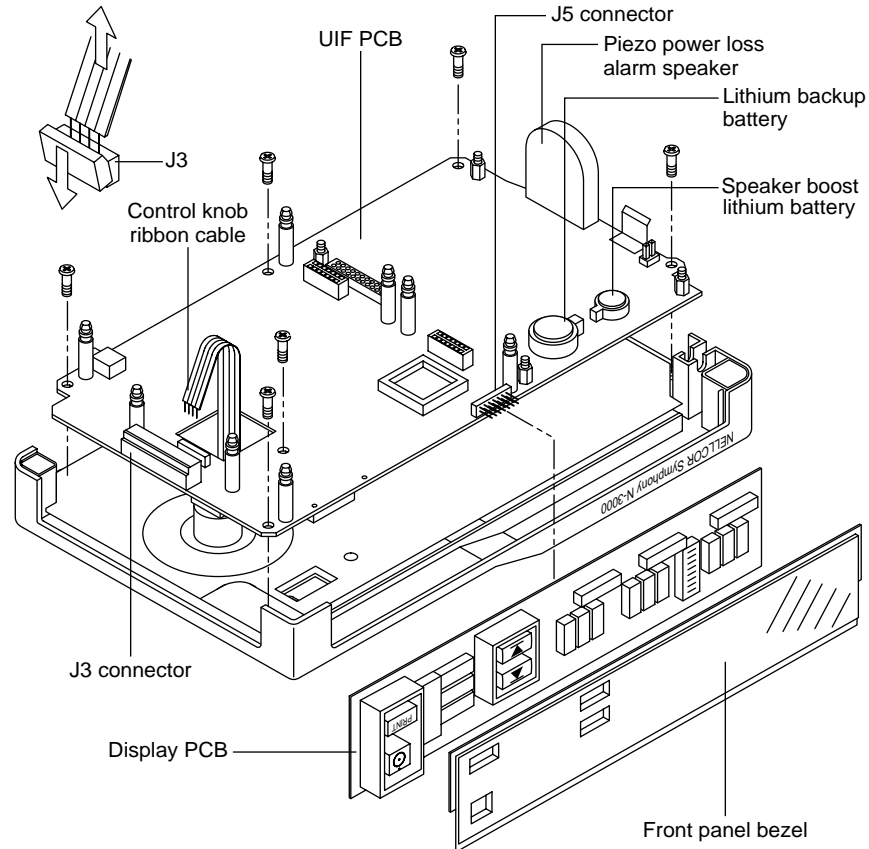

Figure 6-9: Display PCB and UIF Board Disassembly
3. Remove the front-panel bezel by gently lifting it up and rotating it away from the Display PCB as illustrated in Figure 6-9.
3. Locate the lithium batteries on the UIF PCB (Figure 6-9). The backup lithium battery (the larger of the two lithium batteries) is used to supply backup power to the UIF processor if the lead-acid battery fails during DC use. It also supplies power to the piezo power loss alarm speaker during a microprocessor or power failure alarm. The other (smaller) battery provides additional voltage to power the piezo speaker.